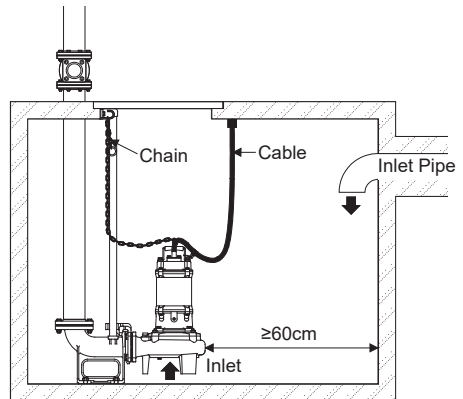

Figure 2
- Pump need to avoid direct impact from inlet. Maintain 60cm (2 feet) distance between pump and inlet pipe. (Figure 2)